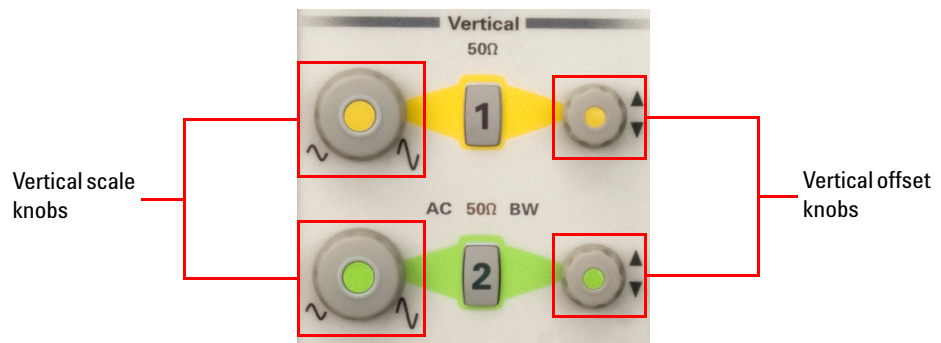

Figure 2-8 Vertical scale and offset knobs in the Vertical section
- 1 To adjust the vertical scale, turn the vertical scale knob of the desired channel in the Vertical section as shown in Figure 2-8.
- 3 To adjust the vertical offset, turn the vertical offset knob of the desired channel in the Vertical section as shown in Figure 2-8.